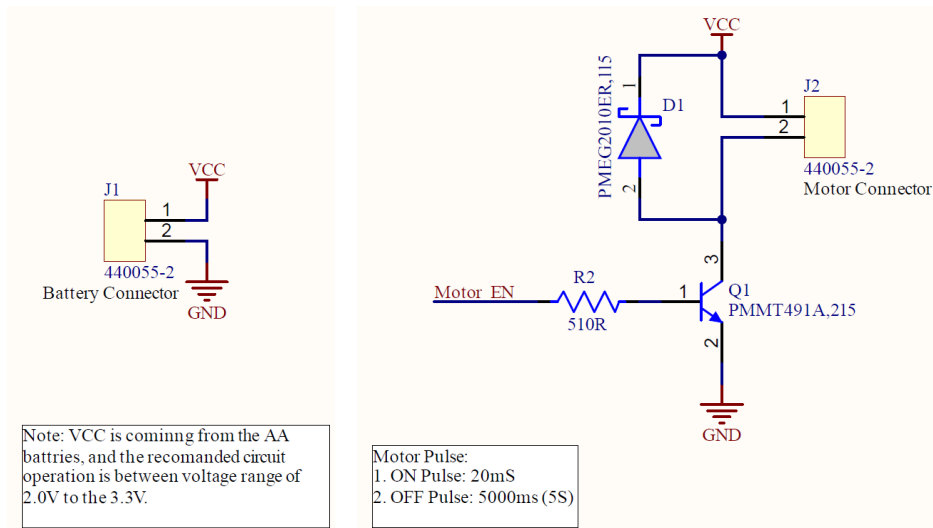

Figure 3. Battery and Motor Drive Section
- Figure 3. Battery and Motor Drive Section3